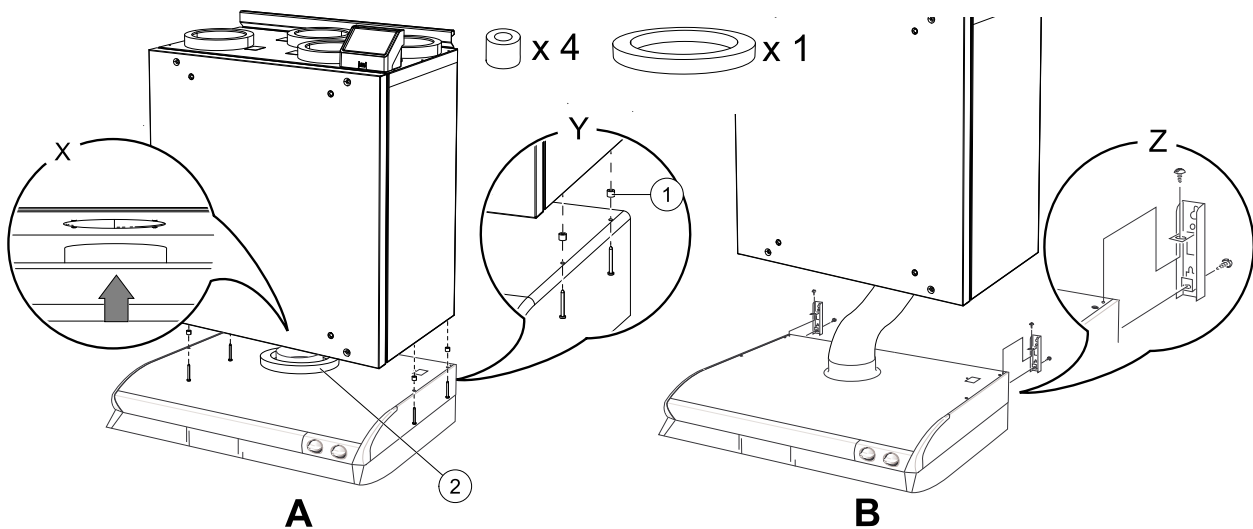

Fig. 10 Installation of the cooker hood
1. Place a circular insulation on the cooker hood connector to prevent air leaking (figure 10, pos. 2).
Insert the cooker hood directly into the unit (figure 10, A). Screw the cooker hood to the bottom of the SAVE VTR 150/B unit (figure 10, pos. Y). The duct connector have to go into the unit. Make sure the duct connector is aligned with the unit before starting (figure 10, pos. X). Use included screws and plastic spacers to prevent over-tightening which could lead to bent cooker hood (figure 10, pos. 1).
2. Other installation method is to connect the cooker hood to the unit via a flexible duct (figure 10, B). Use mounting mechanism which is delivered together with the cooker hood (figure 10, pos. Z).